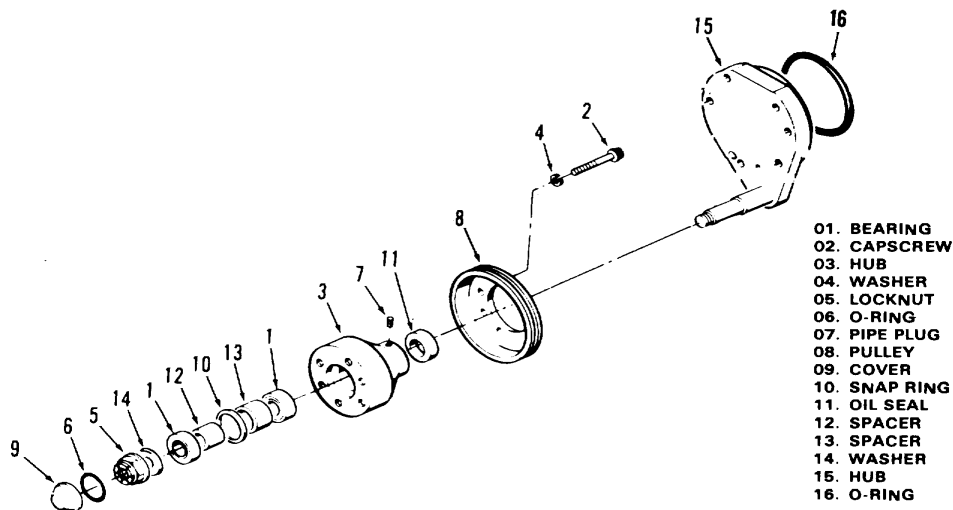

Figure 16J-14. Fan Hub
1. Install the bearing cup spacer (13) Figure 16J-14, into the back side of the fan hub until spacer bottoms on snap ring (10). Press the bearing cup (1) until it is seated against the spacer.
2. Install the bearing cup spacer (12) into the front side of the fan hub (3); press the outer bearing cup into the hub until it is seated against the spacer.
3. Position the rear bearing (1) into the fan hub (3). Fill the area between the bearing and seal with 0.25 ounces(7.1 g) of lubricant.
4. Press the seal (11) in with a suitable mandrel flush with rear of the hub bore. The spring loaded lip of the seal goes next to the bearing.
6. Install the bearing spacer (12) and front bearing (1) onto the shaft.